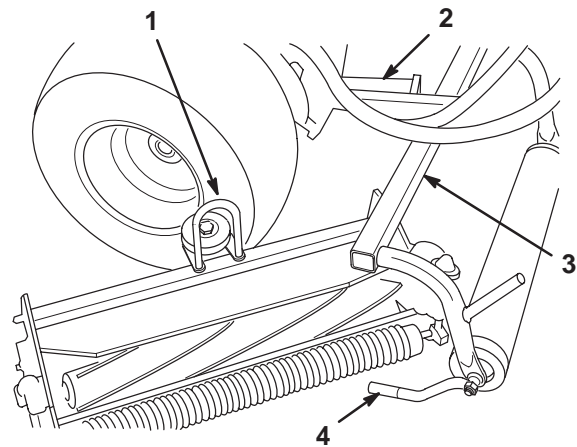

Figure 9
3. Slide the cutting units under the pull frames and position the hoop on the top of cutting units over the lift arms (Fig. 9).